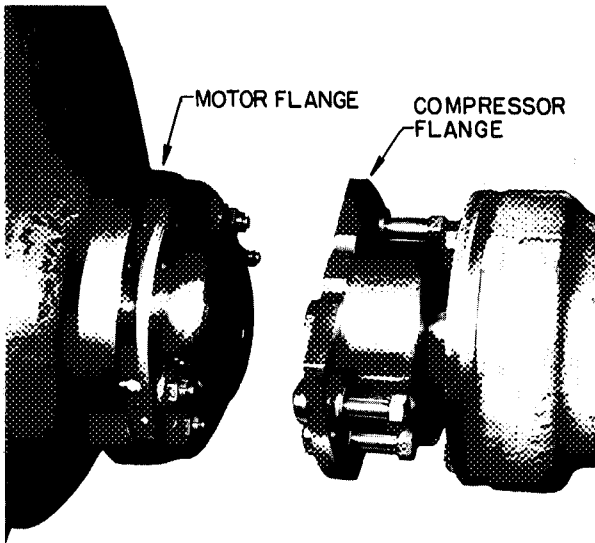
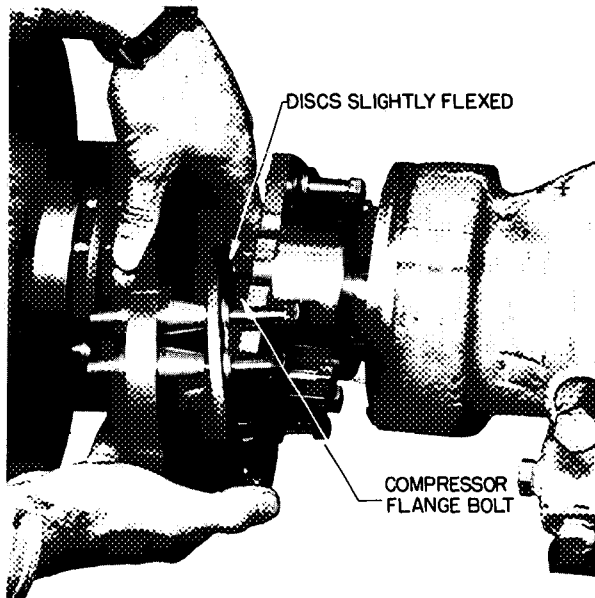

Fig. 74 — 5H80-623 Coupling Flanges Installed
Fig. 75 — Installing 5H80-623 Coupling Center Plate Assembly
is shown in Fig. 74 with both motor and compressor flanges installed. Install the 5H80-623 center plate assembly as shown in Fig. 75. The discs must be slightly fused to clear the compressor flange bolt.
5. On 5H80-623 COUPLING — Install the center plate assembly as shown in Fig. 75. Flex the discs slightly in order to clear the compressor flange bolt.